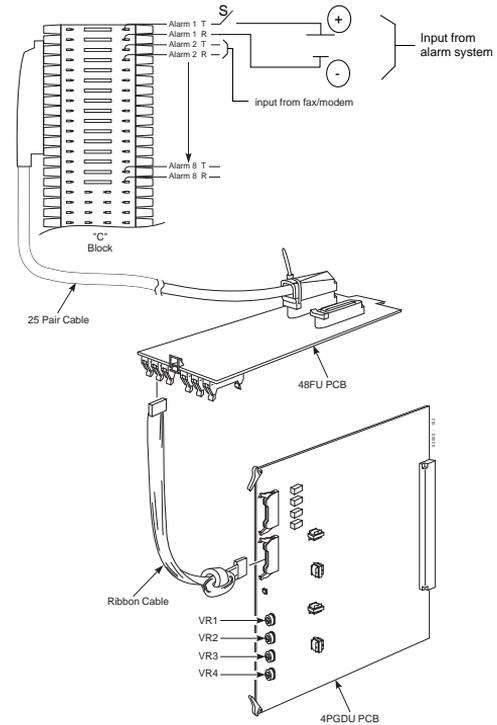

Figure 4-1 INSTALLING AN EXTERNAL ALARM
- The sensors are polarity sensitive and require the tip and ring be connected properly. Refer to Figure 4-1.
Installing an External Alarm (Figure 4-1)
Installing an External Fax/Modem (Figure 4-1)